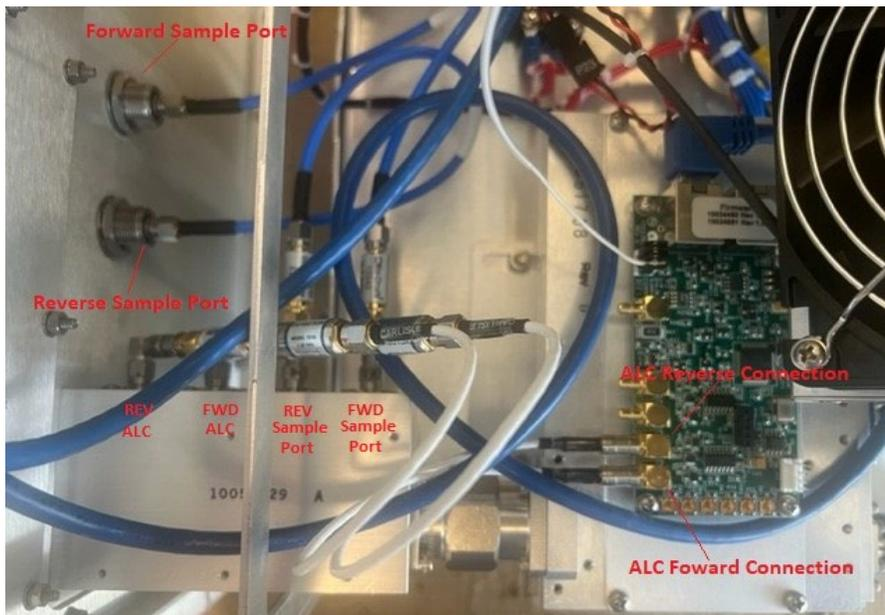

Figure 2
3. Take careful note of the connections between the front panel sample ports, directional coupler and ALC board. Reference Figure 2. These connections must be reconnected in their exact location for proper amplifier functionality.